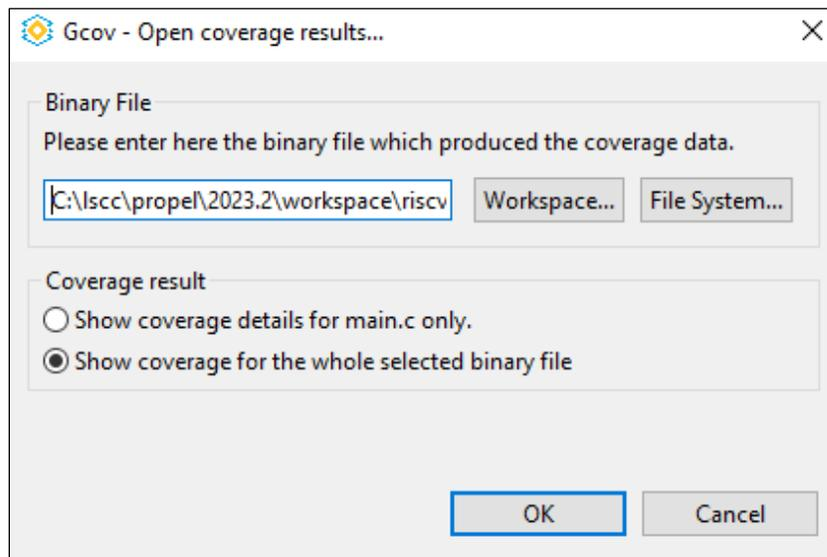

Figure 6.8. Open Coverage Results
2. Double click one of the coverage files and click **OK** (Figure 6.8).